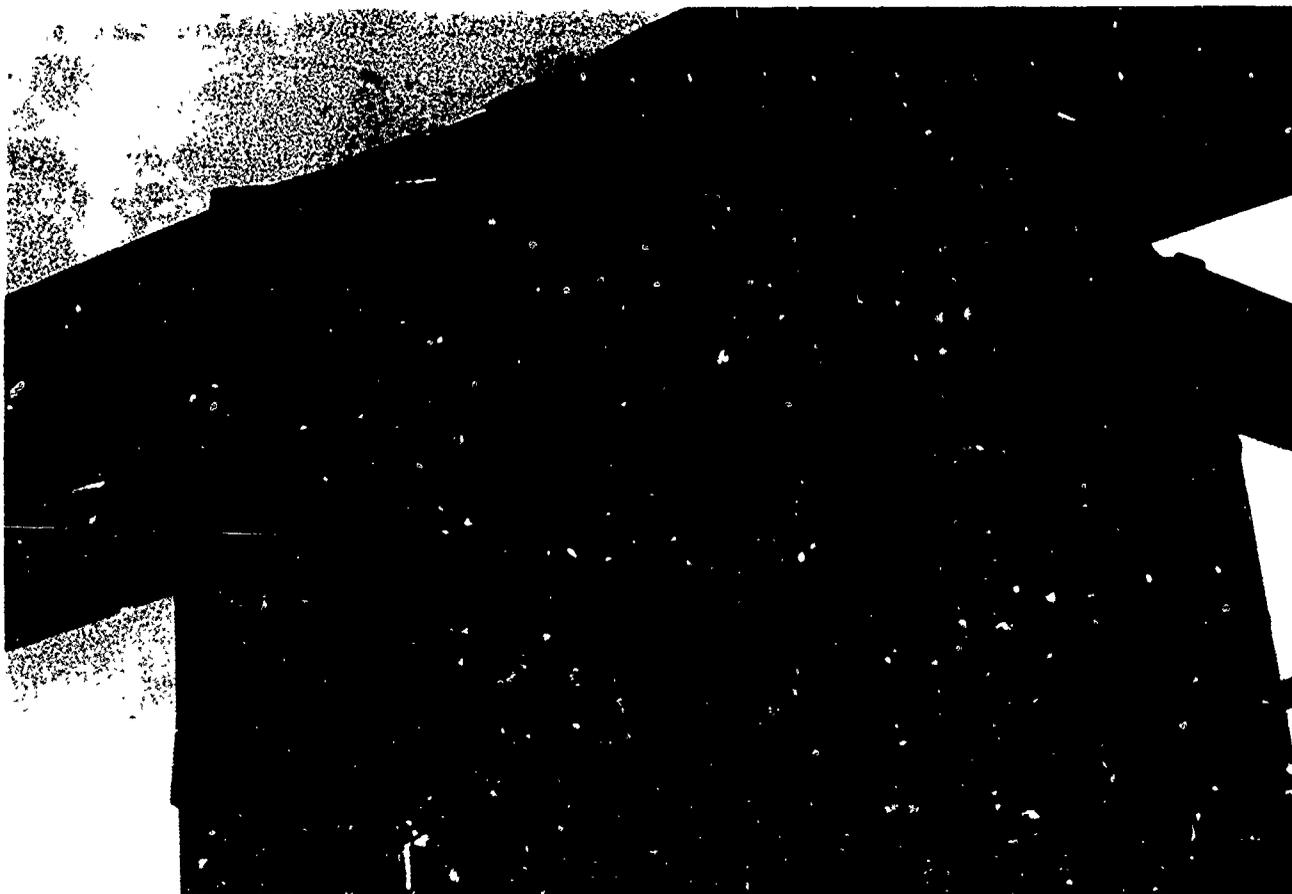

Figure 30. Video Converter.
10. Video Converter (Figure 30)